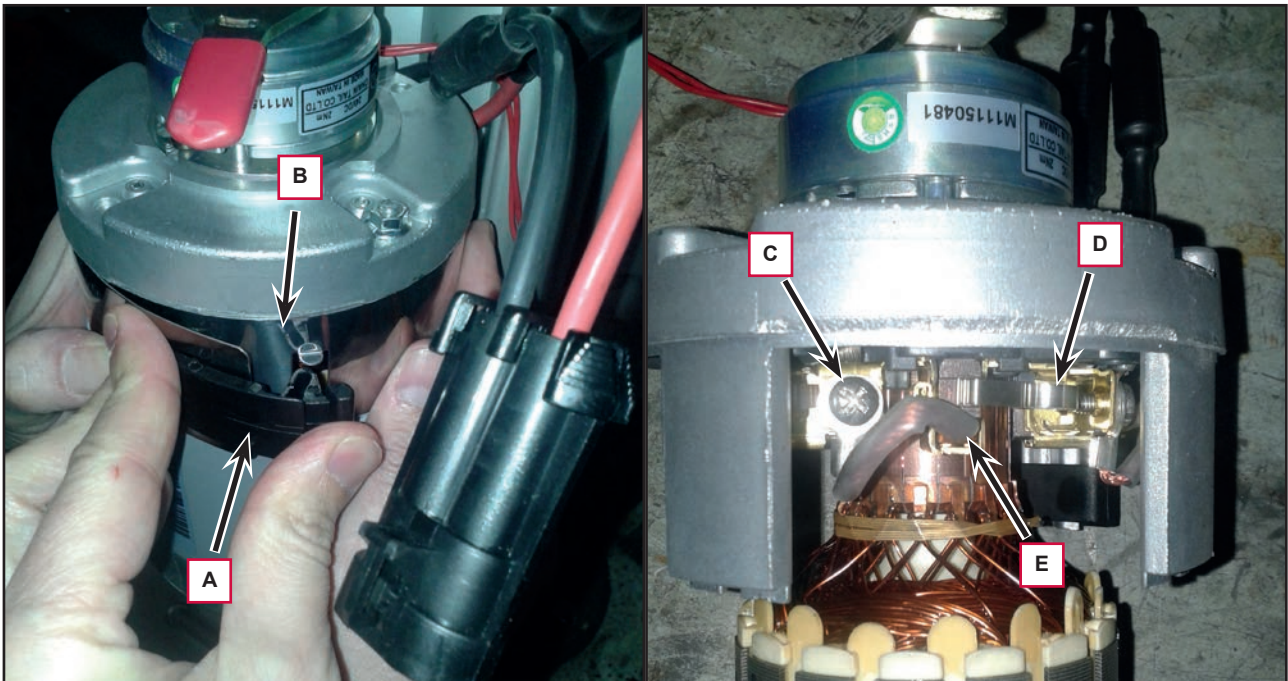

Figure 8
3. Remove the clamp (A, Figure 8) by disengaging the tab (B).
4. Remove the screw (C) of the carbon brushes lead-in wires.
5. Carefully disengage the retaining spring (D) and remove the carbon brushes (E).
6. Check the carbon brushes (E) for wear. The carbon brushes are worn out when: